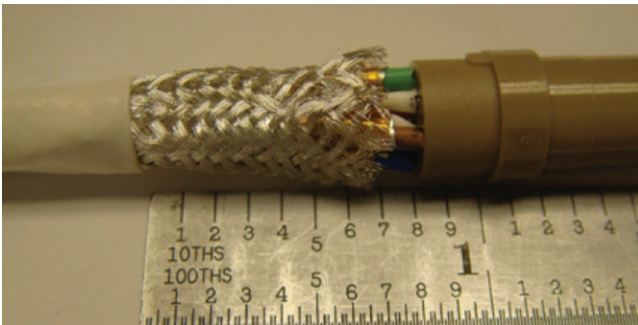

Figure 39: Returning the jacket
14. Using your fingers or needle nose pliers, slide the outer jacket back so that it is 0.8 inch from the end of the insulator, and trim any excess material (Figure 39).